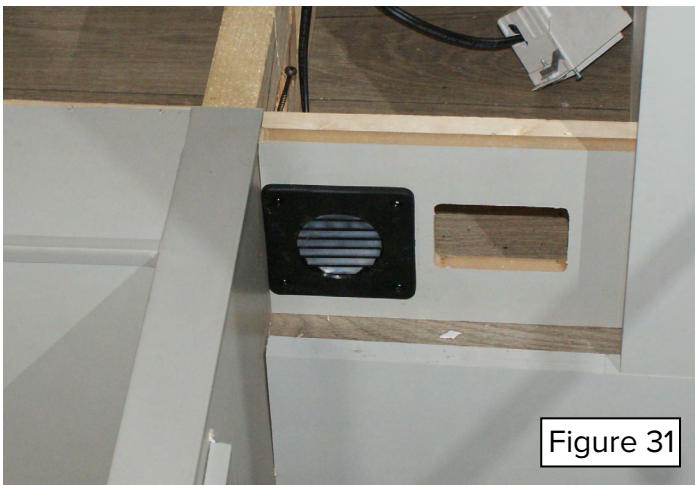

Figure 31
34. Using a power drill and 2" hole saw, bore a hole inboard of the 110 VAC recept in the side panels of the slide out platform. Install a vent cover over the hole using four (4) x/x" screws. (Figure 31). Repeat for both sides.